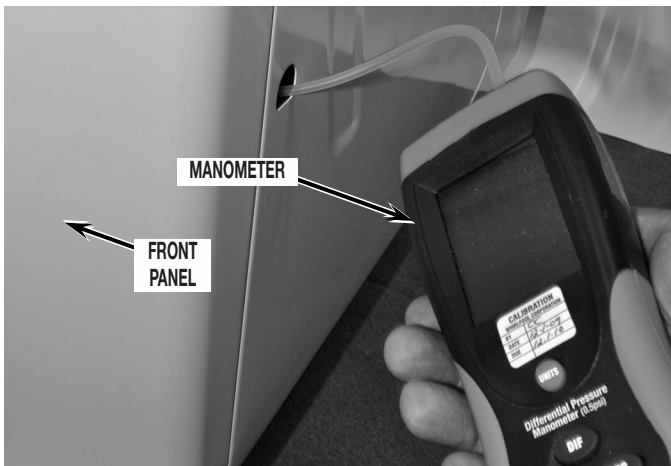

FIGURE 4
4. Turn on and zero manometer. See Figure 4.